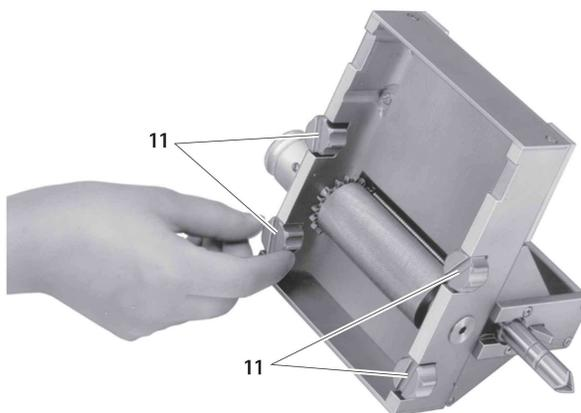

Fig. 1
- ▶ Turn cutting device 4 upside down so that the four screws 11 are visible, see Fig. 1.